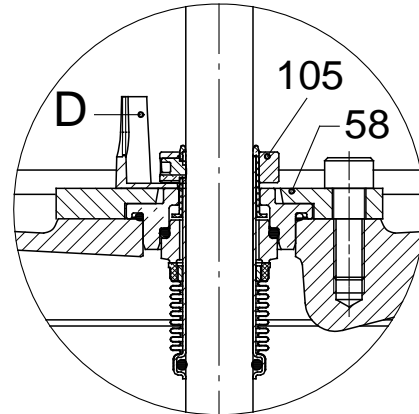

Fig. 1 Shaft seal
Remove the screws (pos. 7a) and the coupling guards (pos. 7). Keep the shaft seal in position on the shaft by inserting the distance piece (pos. D) between the shaft seal (pos. 105) and the seal carrier (pos. 58). See fig. 1.
Keep the shaft seal in position on the shaft by inserting the distance piece (pos. D) between the shaft seal (pos. 105) and the seal carrier (pos. 58). See fig. 1.
Press the pump shaft down, and fasten the shaft seal on the shaft with the screws (pos. 113). See fig. 1.